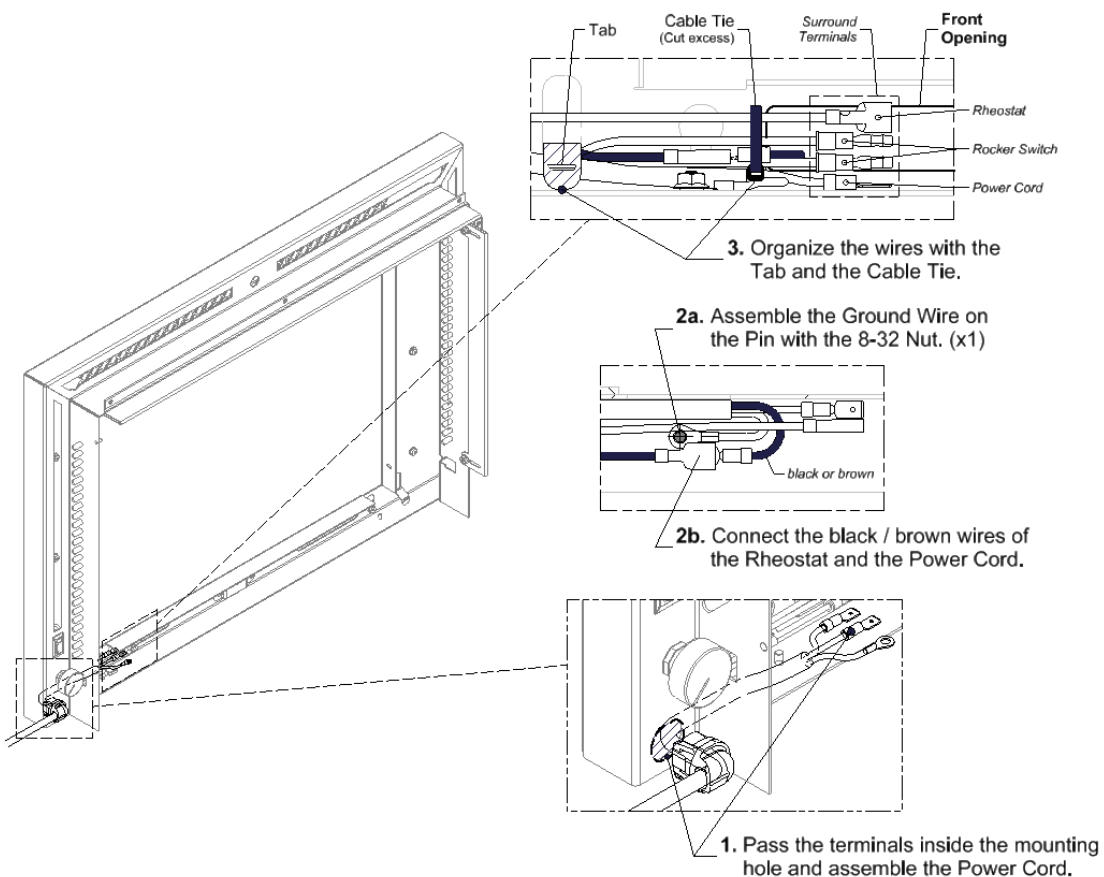

Figure 4-8: Power Cord Installation (Surround Outlet)
Follow these instructions (Figure 4-8) to install the included Power Cord.
- Make sure the Terminals are bundled together with the Cable Tie and accessible from the front opening. (See Figure 4-8 Step 3)
- Make sure the Terminals in the Surround are bundled together with the Cable Tie and accessible from the front opening. (See Figure 4-8 Step 3)